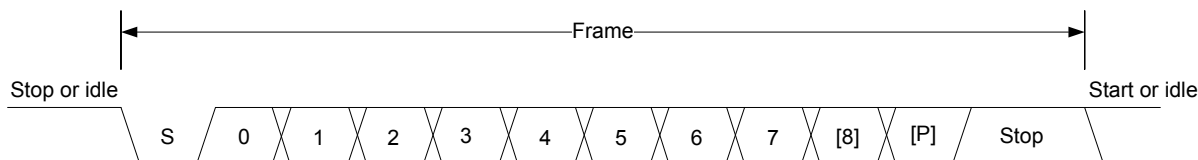

Figure 18.2. LEUART Asynchronous Frame Format
The frame format used by the LEUART consists of a set of data bits in addition to bits for synchronization and optionally a parity bit for error checking. A frame starts with one start-bit (S), where the line is driven low for one bit-period. This signals the start of a frame, and is used for synchronization. Following the start bit are 8 or 9 data bits and an optional parity bit. The data is transmitted with the least significant bit first. Finally, a number of stop-bits, where the line is driven high, end the frame. The frame format is shown in Figure 18.2 LEUART Asynchronous Frame Format on page 630.